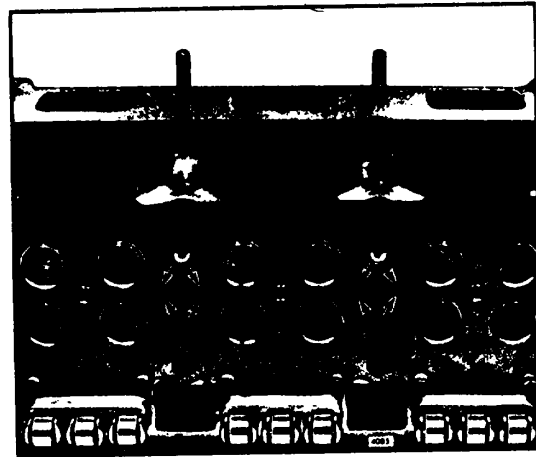

Fig. 5. - Correct Installation of Water Nozzles in Cylinder Head
- c. Press the nozzles in place with the outlet holes positioned as shown in Fig. 5. The angle between the outlet holes in the nozzle is 90°. Press the nozzles from flush to 1/32" below the bottom surface of the cylinder head.